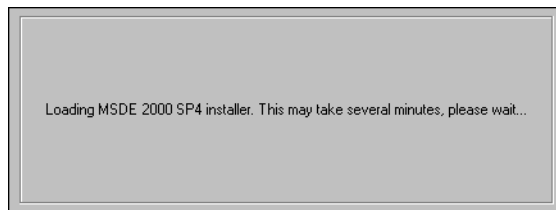

Figure 2-8. Loading MSDE 2000 Service Pack Installer
- a. In order for Setup to upgrade MSDE 2000, it must first copy the service pack installer onto your workstation's hard drive. During this process, the message in Figure 2-8 is displayed.